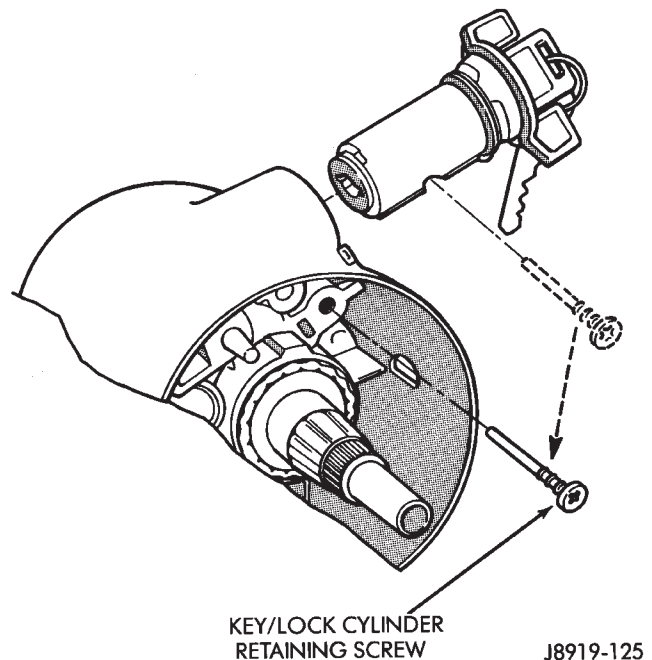

Fig. 11 Lock Cylinder Removal/Installation
(31) Remove ignition lock cylinder retaining screw and pull lock cylinder out of column housing (Fig. 11).